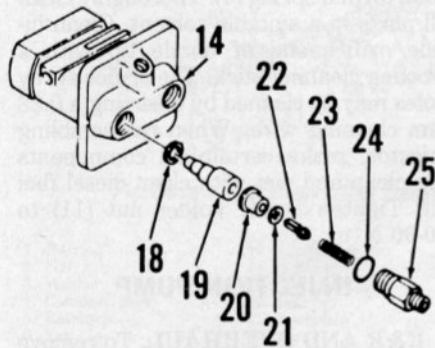

Fig. L4-4—Partial exploded view of fuel injection pump.
valve holder (25—Fig. L4-4). Unscrew delivery valve holder (25) and remove spring (23) and delivery valve (22), then screw delivery valve holder (25) back into pump. Move throttle control to full speed position. Operate primer lever (P—Fig. L4-3) while rotating engine in normal direction (counterclockwise at pto) so number 1 piston is on compression stroke. Note fuel will flow out of delivery valve holder. Stop engine rotation at moment fuel ceases to flow. Timing marks (I and M—Fig. L4-5 or L4-6) should be aligned. To advance ignition timing, remove shim gaskets (G—Fig. L4-3); install shim gaskets to retard injection timing. Tighten injection pump retaining screws to 24.5 N·m. Reinstall removed pump parts after checking timing.